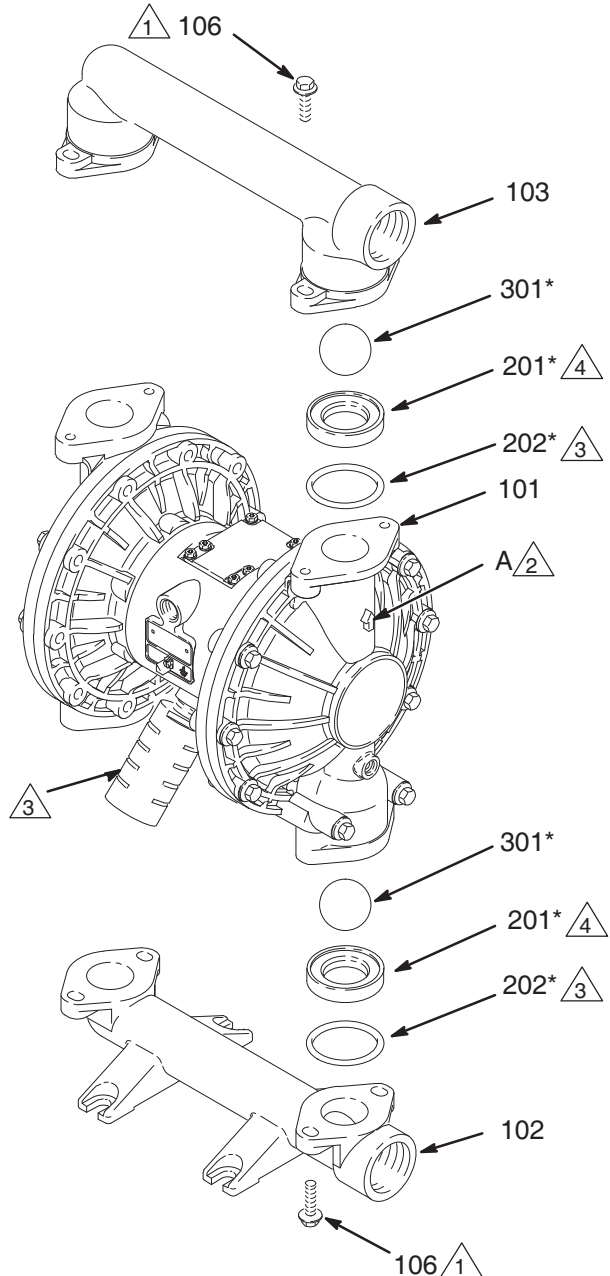

FIG. 10
3. Using a 13 mm socket wrench, remove the four bolts (106) holding the outlet manifold (103) to the fluid covers (101). See FIG. 10.
4. Remove the o-rings (202, *not used on some models*), seats (201), and balls (301) from the manifold.
5. Turn the pump over and remove the inlet manifold (102). Remove the o-rings (202, *not used on some models*), seats (201), and balls (301) from the fluid covers (101).
2. Reassemble in the reverse order, following all notes in FIG. 10. Be sure the ball checks are assembled **exactly** as shown. The arrows (A) on the fluid covers (101) **must** point toward the outlet manifold (103).
- ⚠ 2 Arrow (A) must point toward outlet manifold (103).
- ⚠ 4 Beveled seating surface must face ball (301).